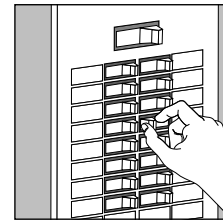

FIG. 2
**FIG. 2.** Place either the main (Master) switch to the "OFF" position, cutting off power to your entire home OR turn off the individual switch that provides power to where the fixture will be installed.